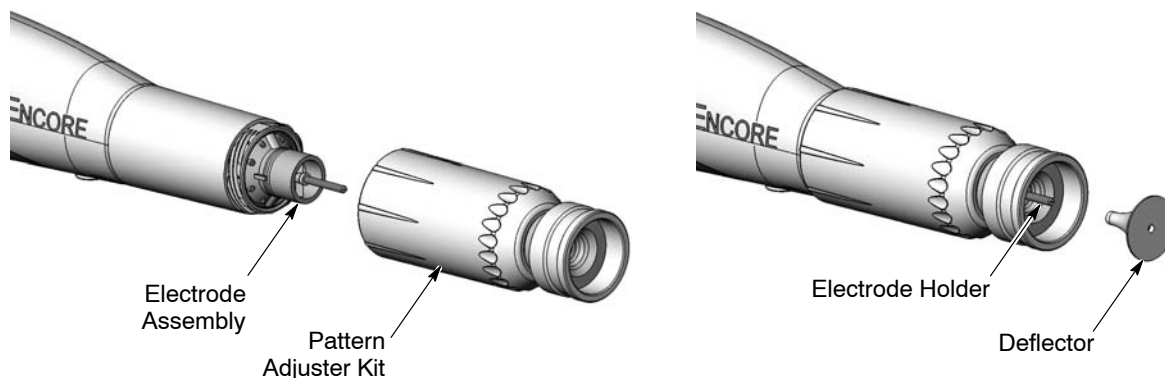

Figure 4-9 Pattern Adjuster Kit Installation
3. See Figure 4-9. Install the integral conical nozzle onto the electrode assembly and screw the nozzle nut clockwise until finger-tight.